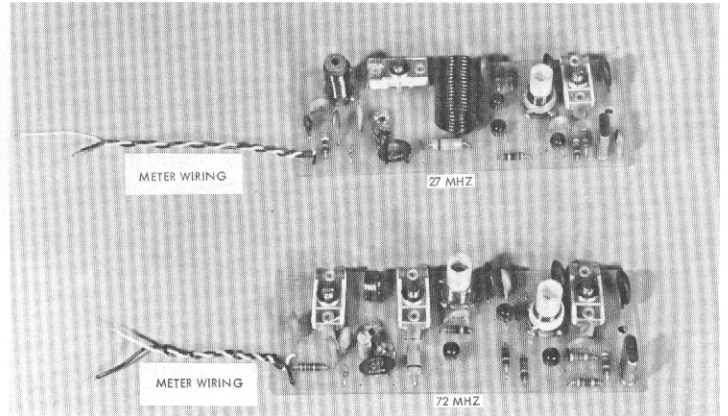

Figure 13. Wired RF Boards
- 131. Solder yellow and black meter wires to RF board assembly (Package No. ST-4) at position (W). Clip excess leads below board. See figures 13, 24 and 25 for correct connections and wire lengths. Twist these wires, then shrink a 1/8" length of 3/32" shrink tubing over wires as close to board as possible.